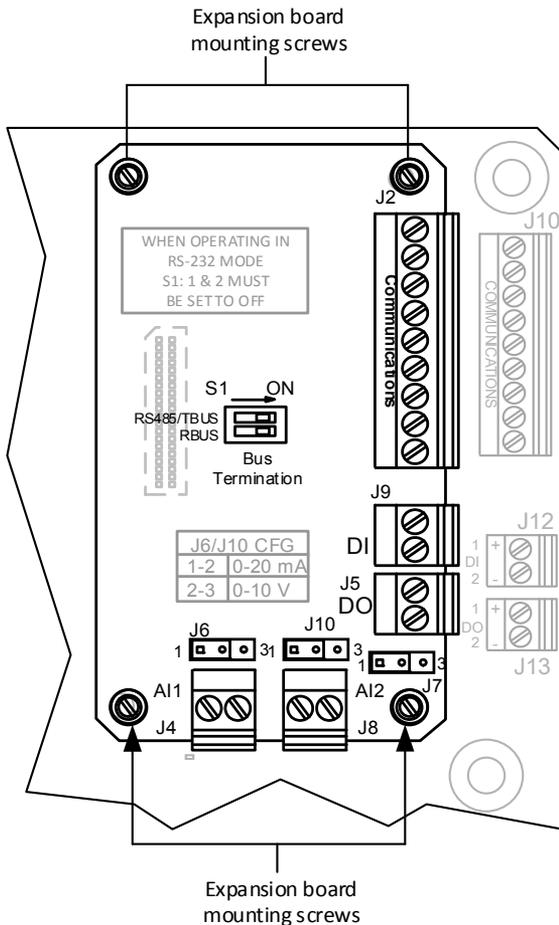

Figure 2: μ FLO^{G5} I/O expansion board
3. If removing the I/O expansion board as part of another service procedure, it may not be necessary to disconnect the field wiring. Otherwise, disconnect the following field wiring connections on the I/O expansion board (Figure 2):